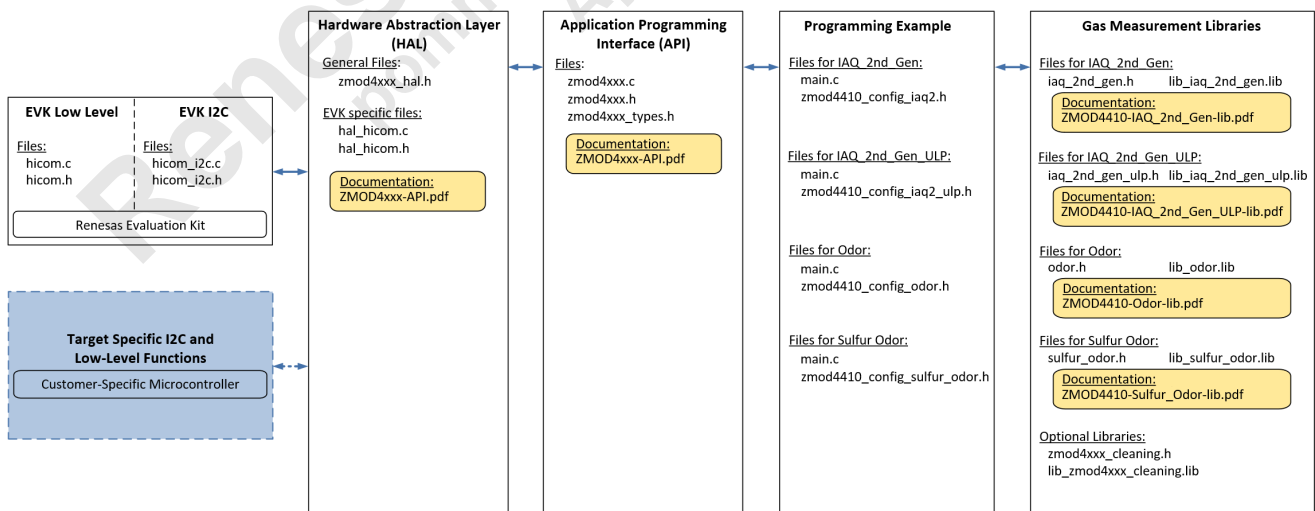

Figure 1. File Overview for ZMOD4410 Firmware
To operate the ZMOD4410 and use its full functionality, five code blocks are required as displayed in Figure 1:
- The “Target Specific I2C and Low-Level Functions” block is the hardware-specific implementation of the I²C interface. This block contains read and write functions to communicate with the ZMOD4410 and a delay function. If the Renesas EVK is used, files for the EVK HiCom Communication Board are provided with the ZMOD4410 firmware packages. Using the user’s own target hardware requires implementing the user’s target-specific I²C and low-level functions (this is highlighted in light blue in Figure 1).
To set up a firmware for an Arduino target, Renesas provides the above-mentioned EVK examples also as Arduino examples. These examples have a similar structure as shown in Figure 1 but with a HAL dedicated for Arduino, an Arduino-compatible structure, and Arduino-specific files. One example supports SAMD 32-bit ARM Cortex-M0+ based Arduino-Hardware included in the SAMD Boards library. For example: